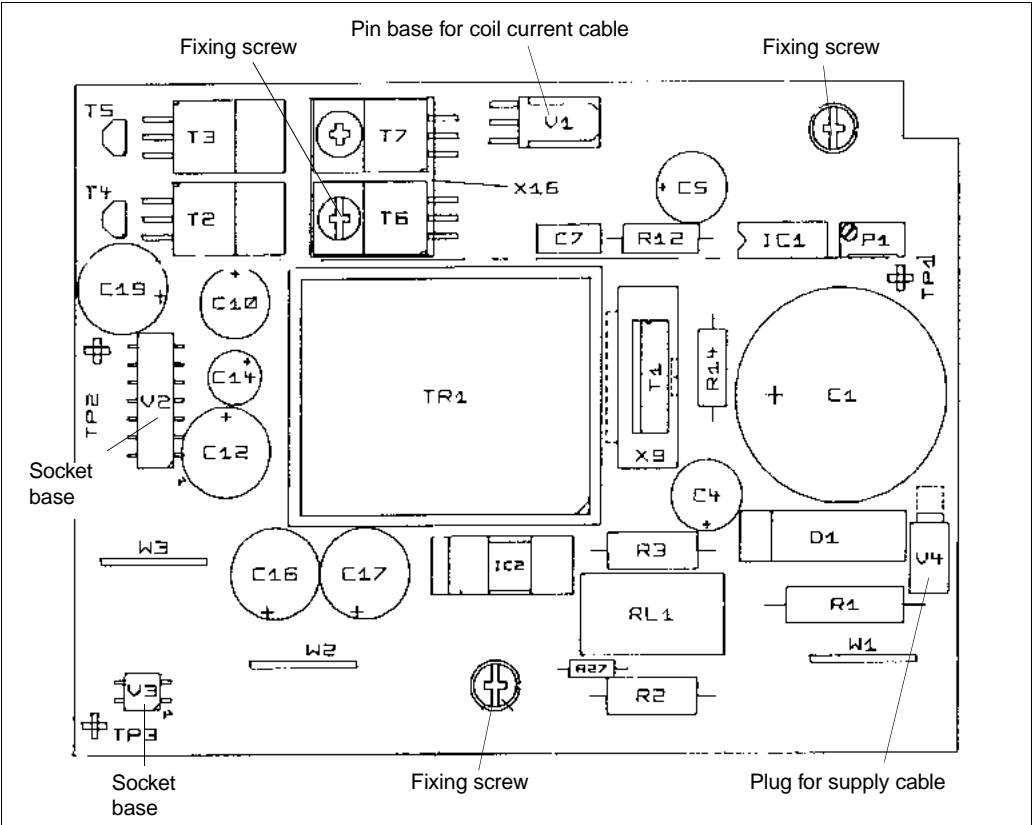

Fig. 45
5. Remove the 2-pole plug of the power supply cable by pressing the catch of the power supply board at the same time (Fig. 45: V4).
8. Remove the coil current cable plug from the power supply board (Fig. 45: V1).